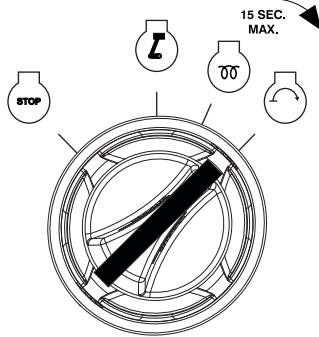

Figure 3-8. Crank Engine
- See Figure 3-8. Turn the key to the right START position and hold it until the engine cranks and starts running.